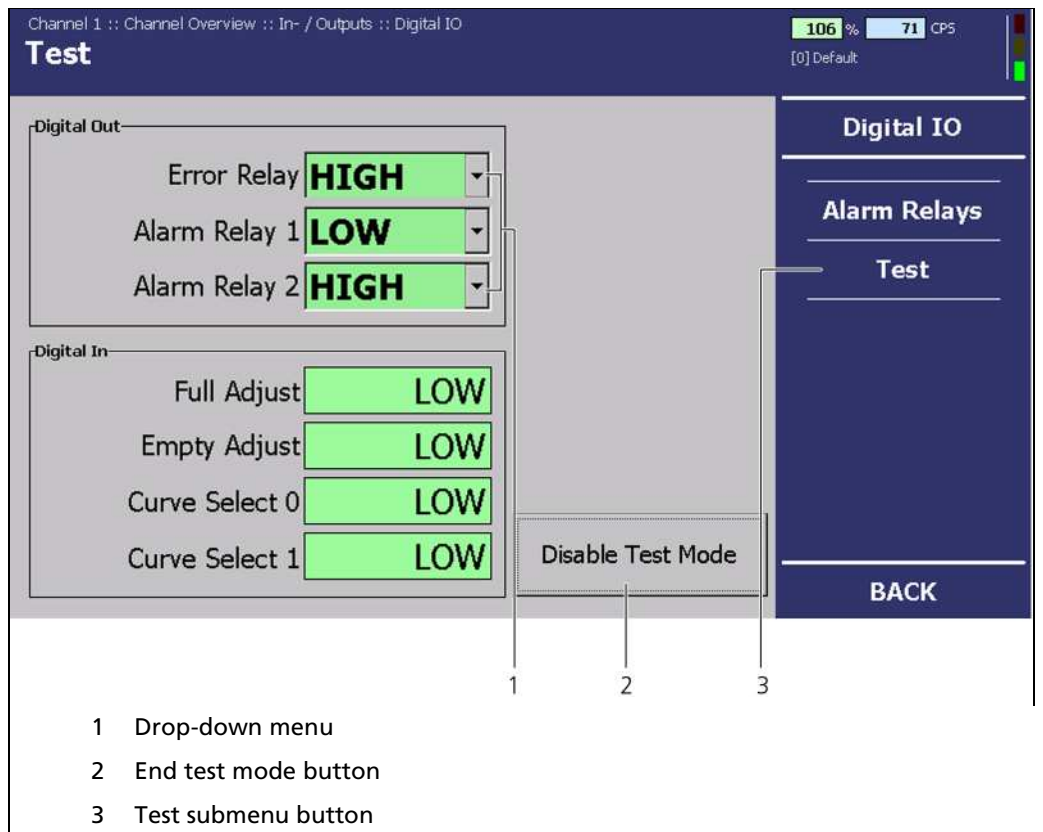

Fig. 69 "Channel Overview" menu, In/Outputs - Digital IO (Test)
Fig. 69 only informs of the switched state.
In the "Channel Overview" menu, click on In/Outputs | Digital IO | Test (Fig. 69, Pos. 3).
1. Click on the **"Error Relay" drop-down menu**, to switch the error relay manually (Fig. 69, Pos. 1).
2. Click on the **"Alarm Relay 1" drop-down menu** menu to switch the alarm relay manually (Fig. 69, Pos. 1).
3. Click on the **"Alarm Relay 2" drop-down menu** menu to switch the alarm relay manually (Fig. 69, Pos. 1).
4. Click on **<End Test Mode>** (Fig. 69, Pos. 2) if you would like to end the test mode.